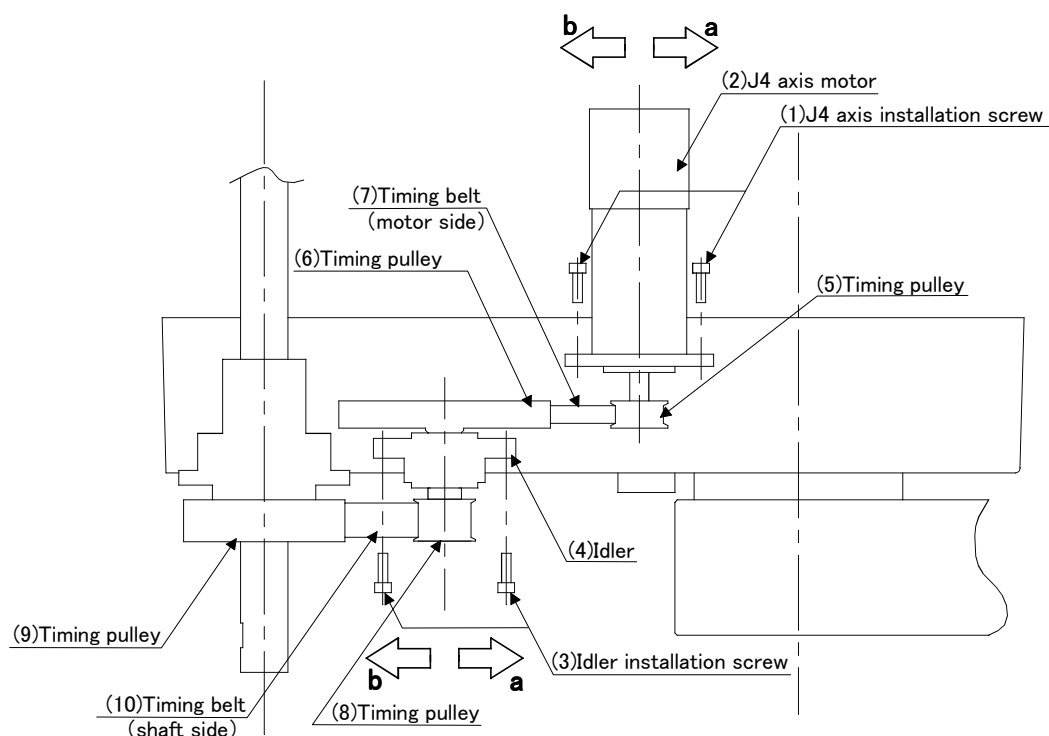

Fig.5-6 : Inspection, maintenance and replacement of J4-axis timing belt
- 1) Fig. 5-6 shows the methods for inspecting, adjusting and replacing the timing belt.
- 3) To reduce dislocation, try to keep the relative positions of the timing pulleys (5), (6), (8) and (9) as much as possible.
- 4) Loosen the three idler installation screws (3) and the two J4 axis motor installation screws (1) to remove the timing belts (7) and (10). If the hand prevents the belts from being removed, remove the hand when changing the belts.